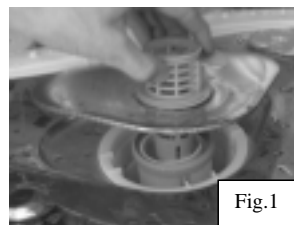
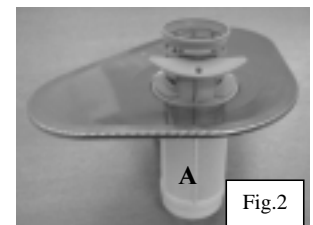

Fig.1
Fig.2
Is the water inlet hose connection secured at rear of machine (Fig1) and has filter washer (A) been fitted (Fig2)?
Step 2: Remove filter from base of machine (Fig.1)
Step 3: Rinse filters under running water and ensure that large food particles are removed from Area A (Fig.2).
Step 1: Push the white stoppers at the front of the basket shelves outwards and remove the basket (See fig.1 & Fig. 2).